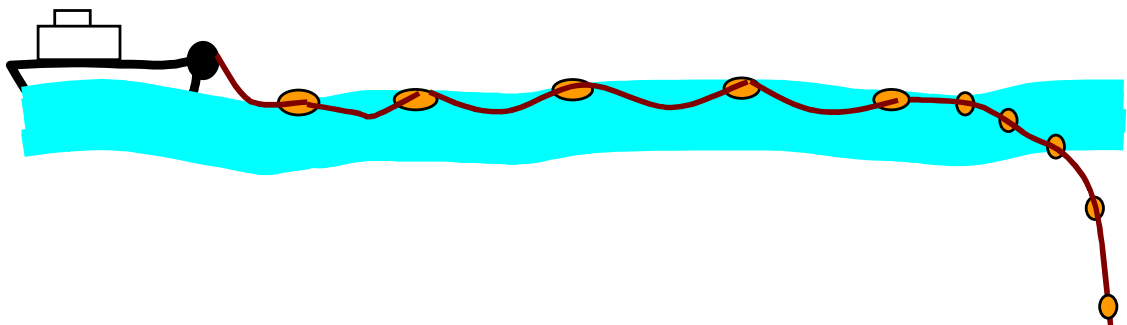

Figure 6-2: Horizontal-vertical transition (e.g. ploughing)
5. Gradually reduce buoyancy in transition from horizontal to vertical cable (Figure 6-2).